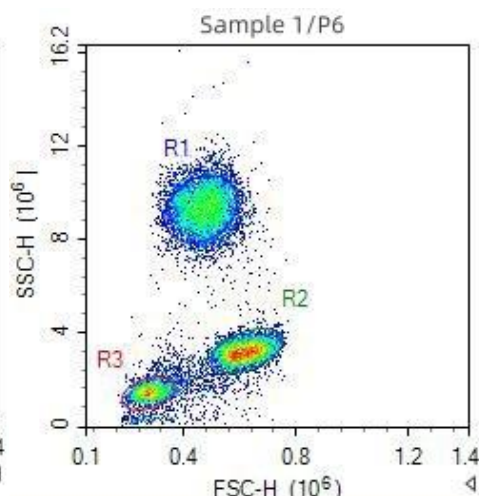

Figure 2
- (2) Establish a linear density plot template with FSC-H as the X-axis and SSC-H as the Y-axis. Define the mixed microsphere populations as regions R1, R2, and R3, as shown in Figure 2.